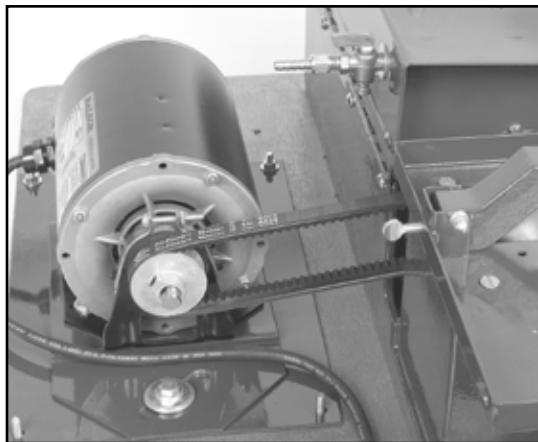

Fig 40 - Remove belt guard from motor mount.
1. Remove the belt guard from motor mount (fig 40).